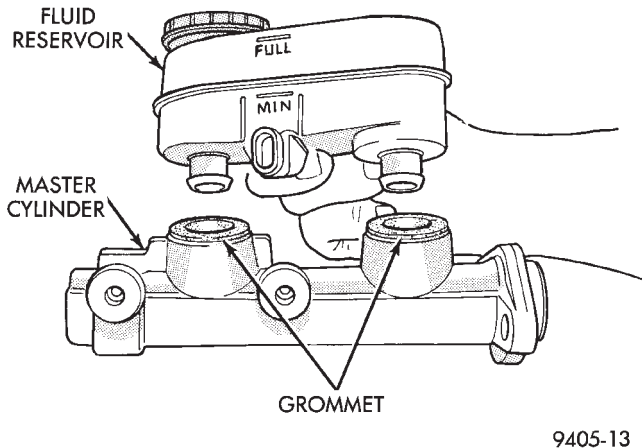

Fig. 149 Removing Fluid Reservoir From Master Cylinder
(4) Remove brake fluid reservoir from master cylinder by rocking the reservoir from side to side while pulling upward on the fluid reservoir.
(5) Remove master cylinder housing to brake fluid reservoir sealing grommets (Fig. 149).
(6) Install new master cylinder housing to brake fluid reservoir sealing grommets (Fig. 149) in master cylinder housing.
(7) Lubricate reservoir mounting area with fresh clean brake fluid. Place reservoir in position over grommets. Seat reservoir into grommets using a rocking motion while firmly pressing down on fluid reservoir.
(8) Be sure reservoir is positioned properly.
(9) Make sure bottom of fluid reservoir touches top of both sealing grommets.